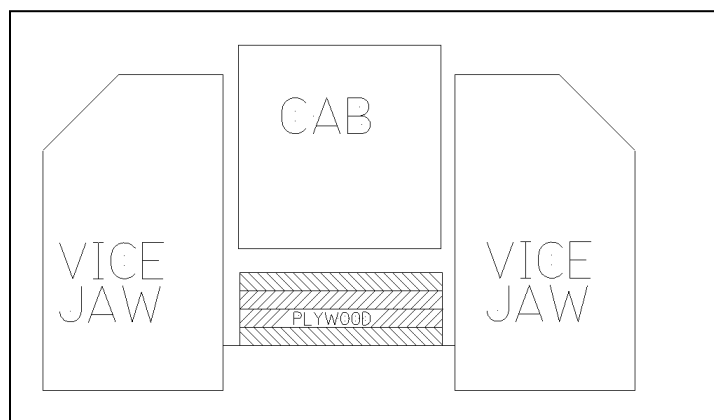

Figure 50: Positioning of the Cab and Plywood Spacer in the Vice for Drilling.
2. Using the drill press, center drill the three cross-hole locations. When drilling, put a plywood spacer under the base to prevent drilling into the vice of the vertical miller. (See Figure 50).